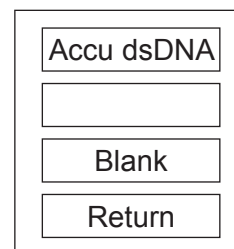

Figure 4. Calibrate screen
- After you select the assay and enter the Calibrate screen (Fig. 4), put in a blank sample in the sample chamber. Touch Blank to take the blank value.